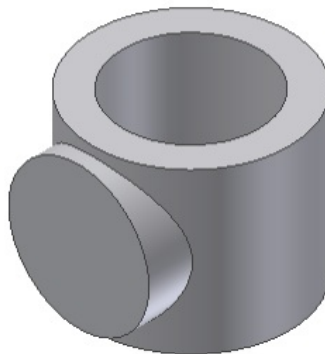

Figure 7-78 Model after creating the first join feature
3. Invoke the **Extrude** tool and then extrude the sketch using the **To Next** option from the **Extents** area. The model after creating the join feature is shown in Figure 7-78.